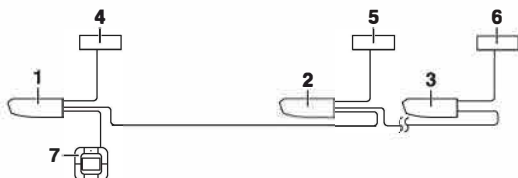

Fig. 24
- When using as a pair unit, you may carry out simultaneous start/stop (group) control up to 16 units with the remote controller. (Refer to Fig. 24)
- Connect crossover wiring between the terminals (P1, P2) inside the control box for the remote controller. (There is no polarity.) (Refer to Fig. 24)